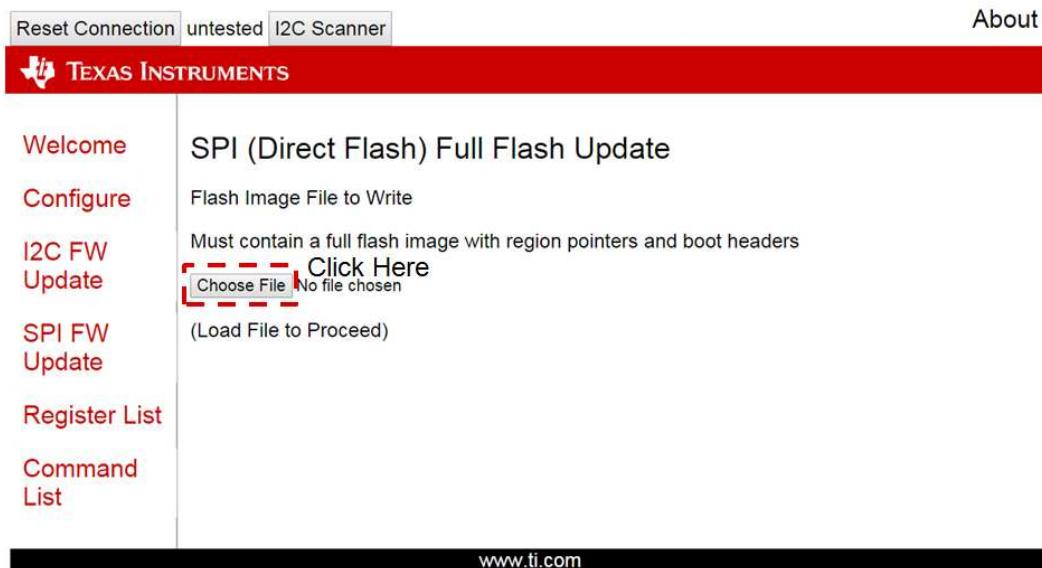

Figure 13. SPI Firmware Update – Choose File
- Step 6. Choose the TPS65981EVM firmware image to load by clicking on the *Choose File* button (see Figure 13). Select the appropriate EVM image (2 region binary file) in the window and verify that it is 191KB in size. Click *Open* to load the file to the TPS6598x Utilities GUI.